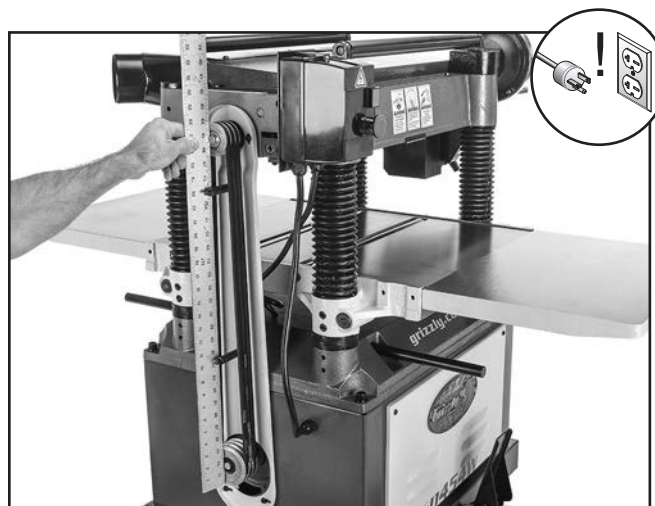

Figure 75. Checking pulley alignment.
2. Remove both cabinet covers and belt cover, then use straightedge to check pulley alignment, as shown in **Figure 75**.